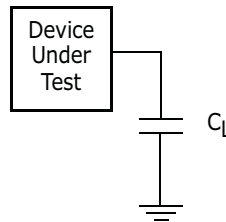

Figure 13.3 Test Setup
2. See Figure 13.3 and Table 13.1 for test specifications